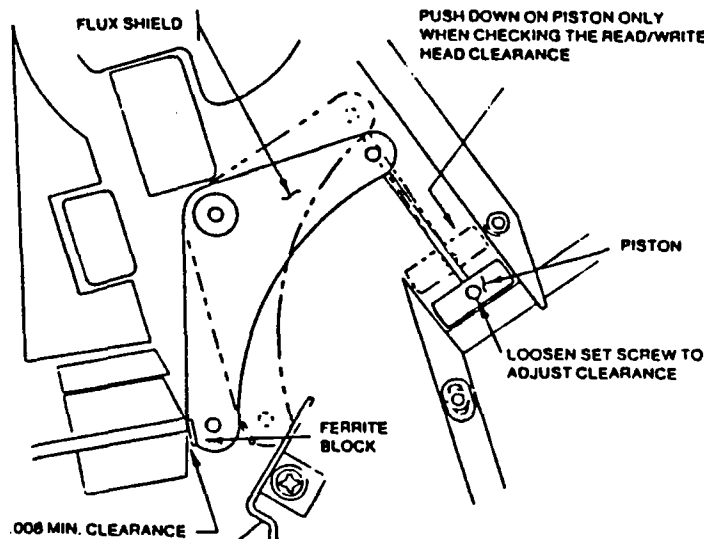

Figure 5-8. Ferrite Flux Shield Alignment
5. Refer to Figure 5-8 for parts location. Hold a non-metallic 0.008 inch shim between the head assembly and the flux shield by pushing the flux shield body toward the head.